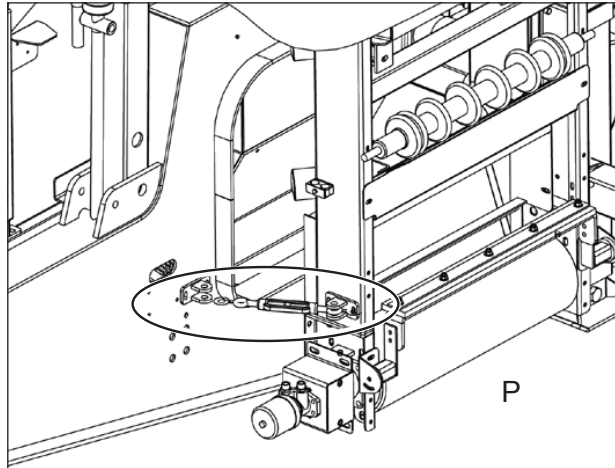

Figure 6.2 - Transport Pins
3. Remove all transport pins (P) and transport stays from the fines side conveyor, Ref: Figure 6.2 and Figure 6.3.